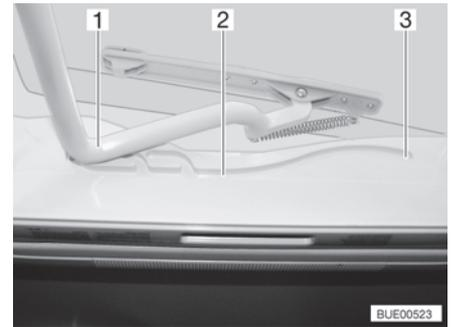

Fig. 108 Heki skylight, guide
- Pull the bar (Fig. 108,1) in the guides (Fig. 108,2) to the rearmost position (Fig. 108,3).
- Use both hands to push the bar (Fig. 108,1) slightly upwards.
- Pull the bar in the guides (Fig. 108,2) to the desired position.